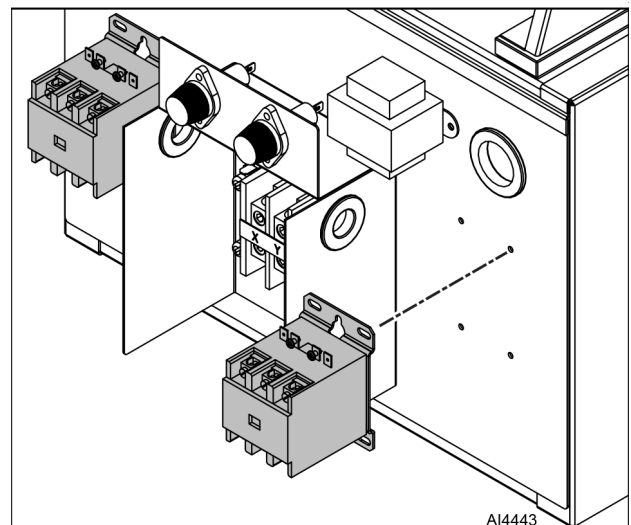

Fig. 22
2. Disconnect wires from contactor (Fig. 22).